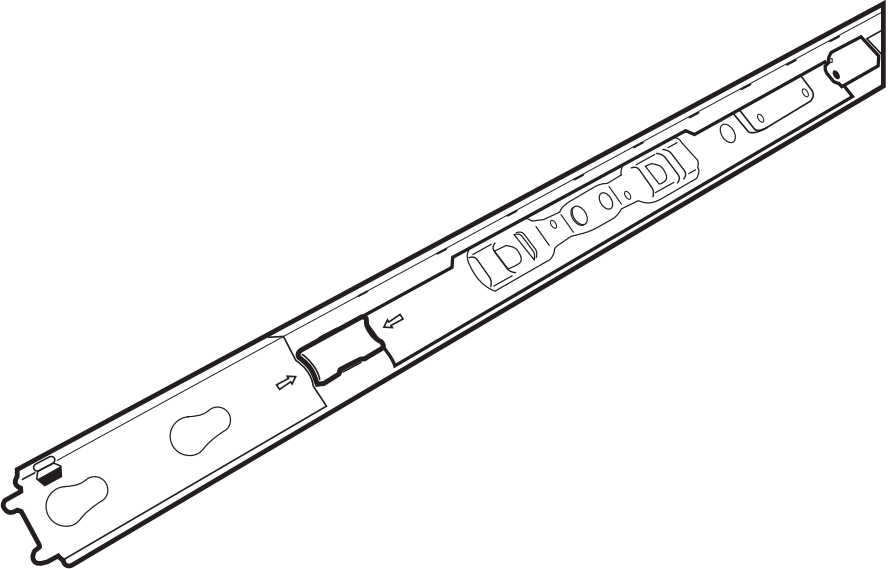

Figure 2.4 Detailed View of the Slider Rail Release Mechanism
3. Extend both sliding rails. See figure 2.4 on page 13.